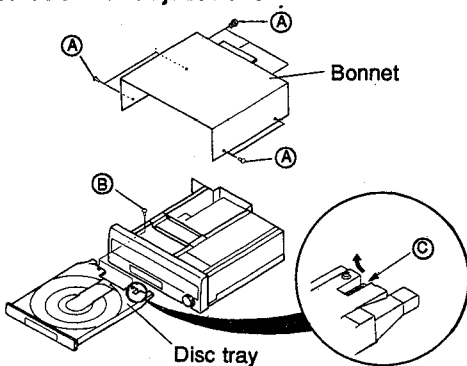

Fig. 1
1. Remove the 7 screws A that stabilize the bonnet and take off the bonnet. (Fig. 1)
2. Remove the 2 tray stopper screws B and press the OPEN/CLOSE button to put the tray unit in the open position. (Fig. 1)
3. While pushing the hook on the right rear of the disc tray C to the left, pull out the tray unit. (Fig. 1)